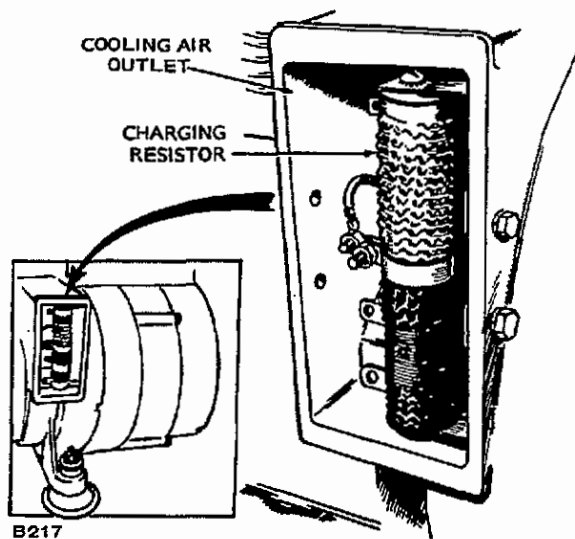

FIGURE 37. GENERATOR AIR OUTLET
3. Remove B1 lead from tapped adjustable resistor in generator air outlet opening, Figure 37.